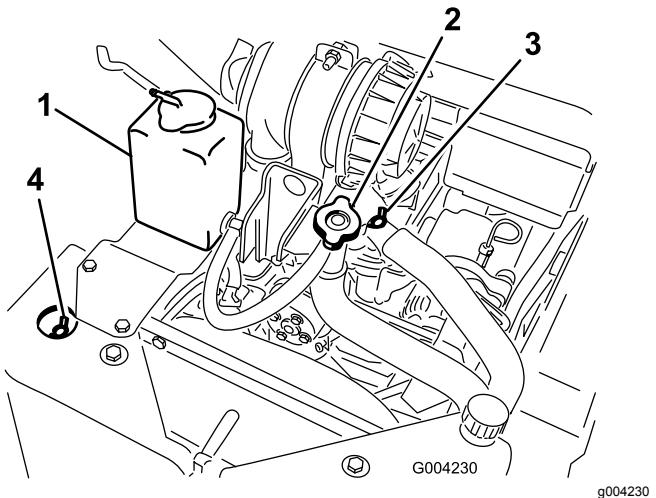

Figure 51
- A. Remove the coolant-fill cap (Figure 51).
- B. Open the front and top coolant-bleed valves (Figure 51).
- C. Pour coolant into the coolant-filler neck until the coolant begins to come out of the front coolant-bleed valve (Figure 51).
- D. Close the front coolant-bleed valve (Figure 51).
- E. Pour coolant into the coolant-filler neck until the coolant begins to come out of the top coolant-bleed valve (Figure 51).
- F. Close the top coolant-bleed valve (Figure 51).
- G. Pour coolant into the coolant-filler neck until the coolant level comes into the filler neck (Figure 51).
- H. Install the coolant-fill cap (Figure 51).